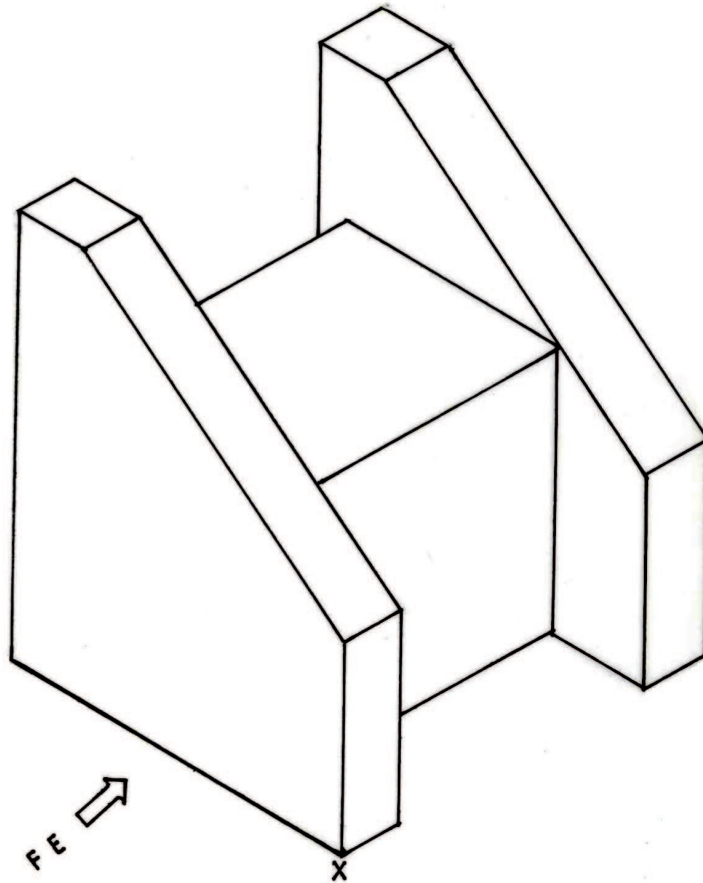

Fig. 1
- 6 **Figure 1** shows a block drawn in isometric projection. Sketch in good proportion the orthographic views of the block in first angle projection. (7 marks)